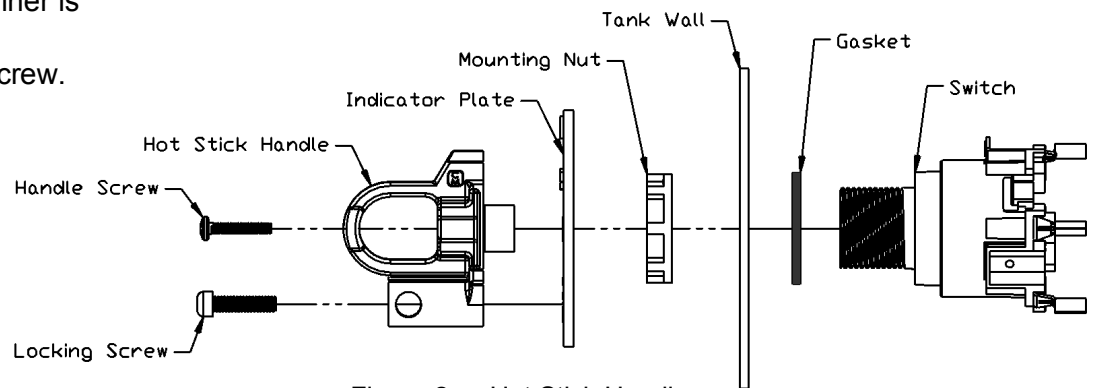

Figure 2 — Hot Stick Handle
- See Figures 2 and 3 for installation sequence.